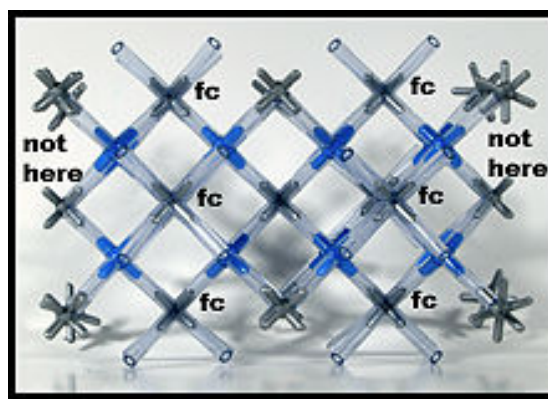

Fig. 10 Placing four bonds on each face centered calcium ion (except at the ends of the crystal).
8. Put four tubes on each of the eight face centered (fc) calcium ions. Make sure not to put the tubes on the face centered ions at the ends of the crystal. See Fig. 10.